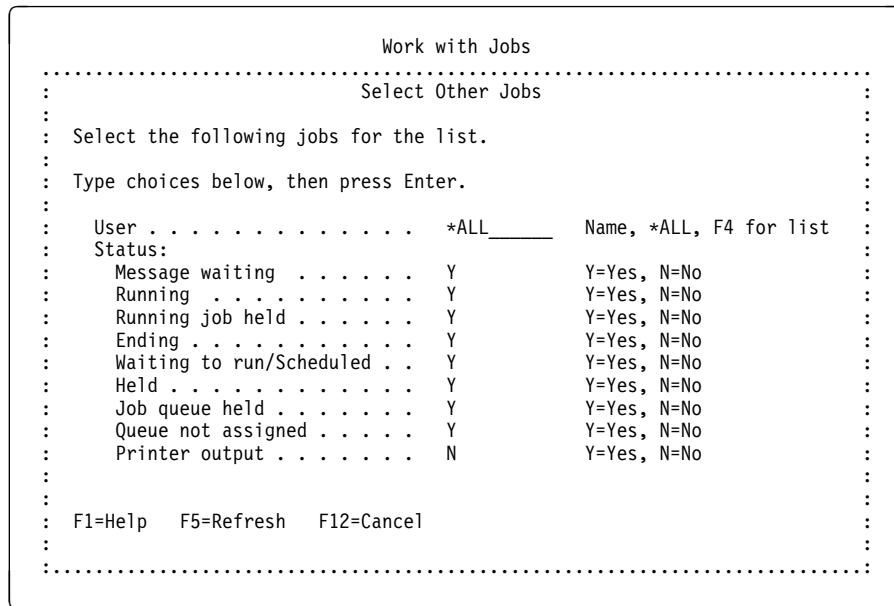

Figure 2-5. Select Other Jobs Window
1. On the Work with Jobs display, press F14 (Select other jobs). Figure 2-5 shows the Select Other Jobs window.